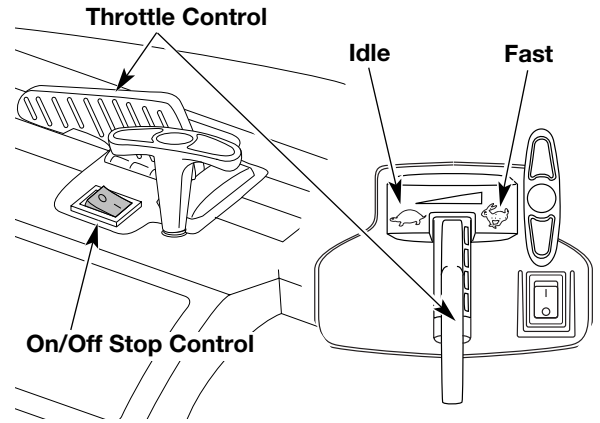
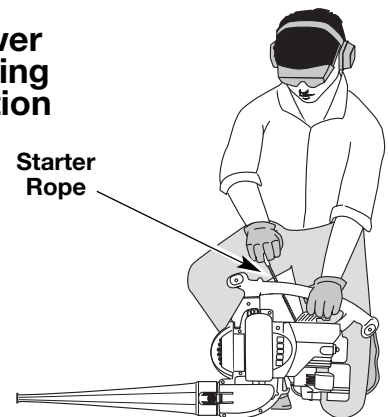
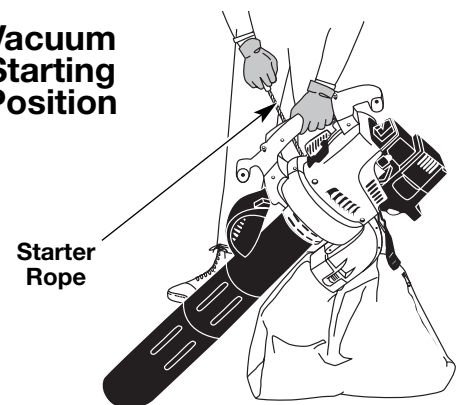

Fig. 10
Fig. 12
Fig. 13
WARNING: Avoid accidental starting. Make sure you are in the starting position when pulling the starter rope (Fig. 12 and 13). To avoid serious injury, the operator and unit must be in a stable position while starting. Do not set unit on any surface except a clean, hard area while starting. Debris such as gravel, sand, dust and grass could be picked up by the air intake and thrown out by the discharge opening. This could damage the unit, property, or cause serious injury to bystanders or the operator.
3. Place the unit in the starting position (Fig. 12 as a blower, Fig. 13 as a vacuum). *Move the throttle control to the **idle position*** (☞) (Fig. 10). This is especially important during cold starting.